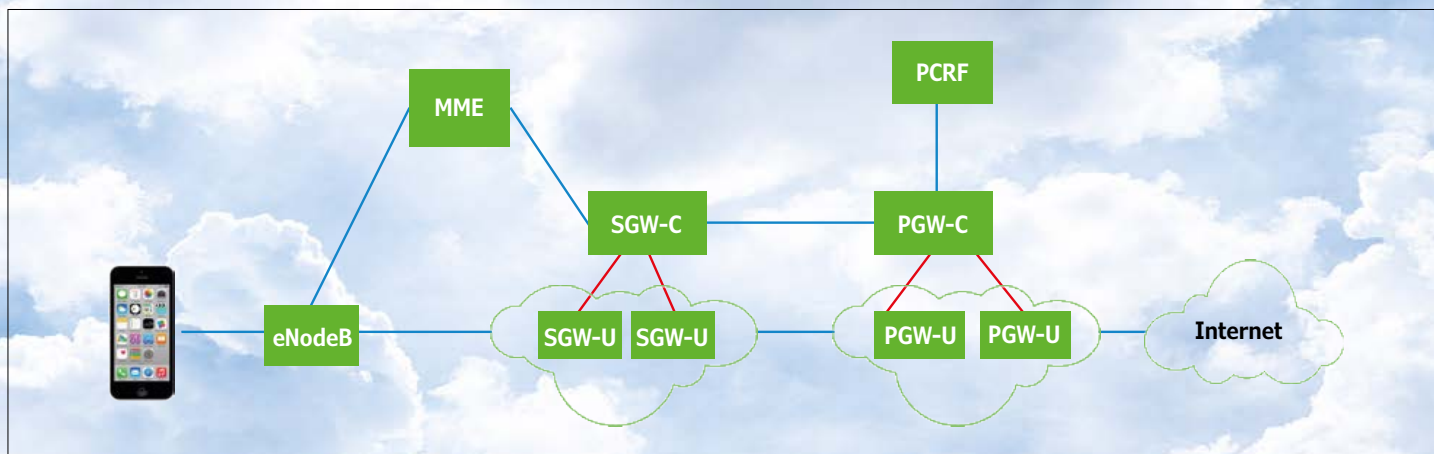

Figure 1. 3GPP (3rd Generation Partnership Project), evolved LTE-A CUPS architecture (LTE-Pro).
The architecture is very close to that of the CUPS (Control and User Plane Separation) architecture evolved from LTE (Long Term Evolution; **Figure 1**), but the Control Plane nodes are mapped directly to MACRO/Umbrella cells as a single function per cluster of cells called the Cluster Controller (CC) and the user plane nodes are mapped to Small Cells as User plane functions called Cluster Member functions whilst the user operates dual connectivity to both the Control-Plane associated Macro-Cell system per Cluster and the most appropriate User Plane Cell within the cell-cluster. So the FDC approach combines Dual connectivity from 3GPP Rel-12, CUPS from Rel-14 and adds Context awareness and clustering to the architecture approach. It should be noted that there are circumstances where the CC also provides local CM functionality e.g. in the case where it supports a mobile travelling at high speeds and a user plane function at the Macro-Umbrella level is more applicable to support this specific user context type.